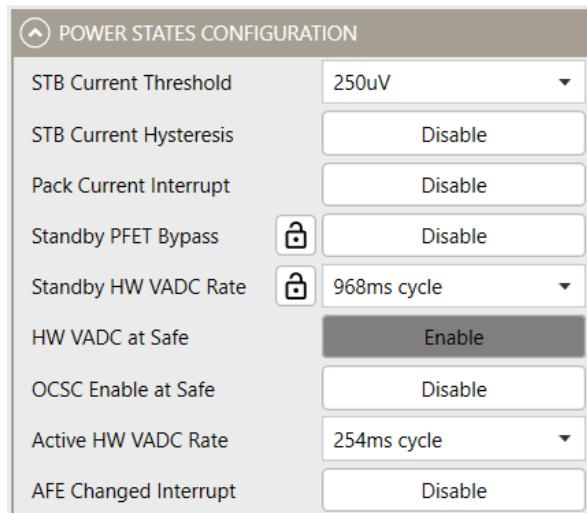

Figure 8: HW VADC at Safe Is Enabled
6. During configuration, the IC must be in safe mode, with all the MOSFETs turned off. All the voltage monitoring protections are disabled in safe mode by default. If a protection is required in safe mode, enable the “HW VADC at Safe” setting (see Figure 8).